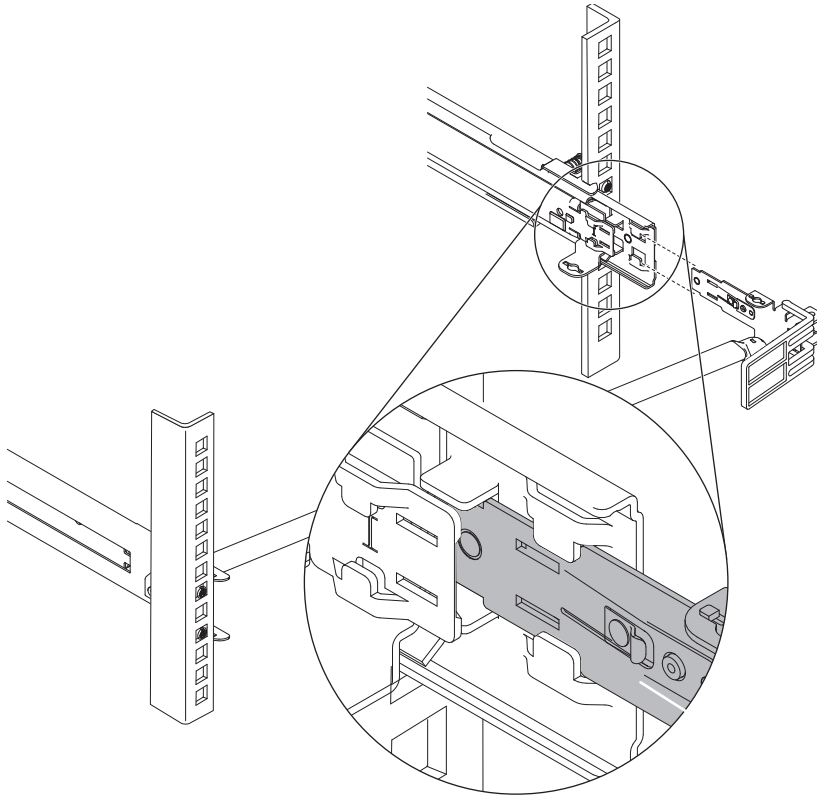

Figure 12. Disconnecting the stop bracket from the slide rail
7. Disconnect the stop bracket from the slide rail, as shown in Figure 12 on page 21 and remove the cable-management stop bracket.